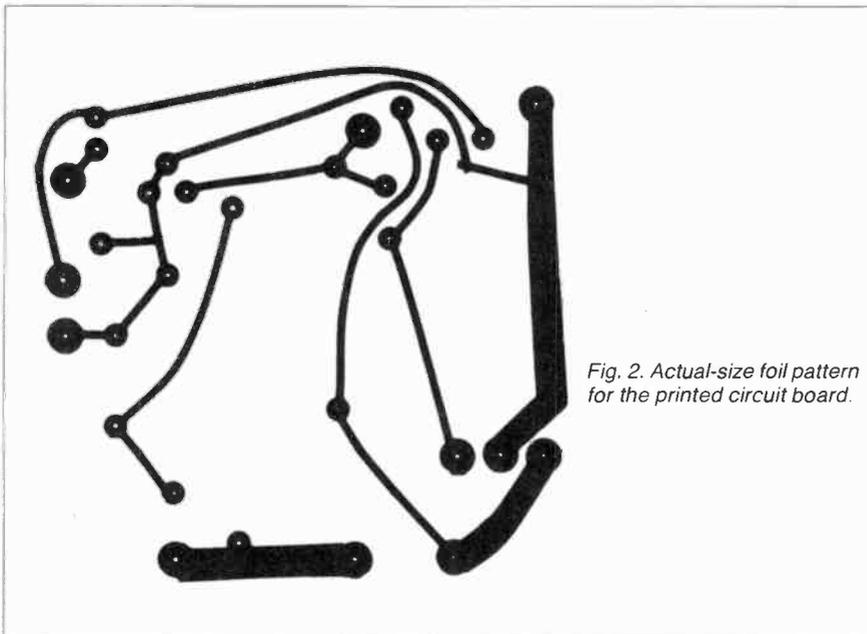
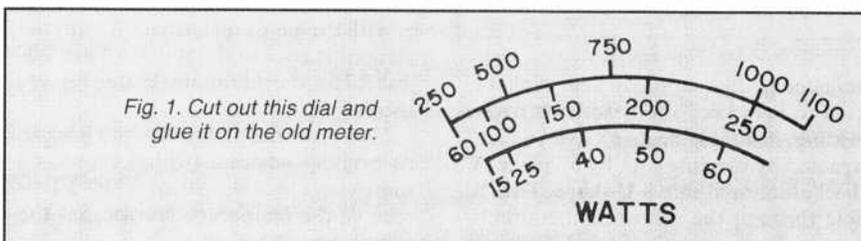

Fig. 2. Actual-size foil pattern for the printed circuit board.
Fig. 1. Cut out this dial and glue it on the old meter.
**Construction.** The circuit can be constructed on a small printed-circuit board measuring about 3" by 3". The only external components are the thermistor and optional switch *SI*. Figure 2 shows a full-size foil pattern, and Fig. 3 shows the parts layout.
Inductor *L1* can be easily constructed by winding about 15 turns of #20 enamel wire on a wood or plastic 3/8"-diameter form. The inductance of *L1* is not critical, but do not use wire of smaller gauge since *L1* must be able to carry the full load current of the blower motor without overheating. The same caution applies to the foil pattern which is shown in Fig. 2. Be sure to keep the conductive paths to the triac wide (as illustrated).
The next step is to pry off the front cover of the panel meter and replace the dial. Remove the two Phillips screws and dial, being careful not to damage the pointer. Cut the new dial from Fig. 1 and glue it over the old dial. Then reassemble the panel meter. Wire the resistors and zener diodes as shown in Fig. 2.